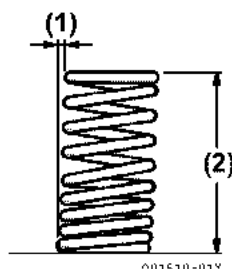
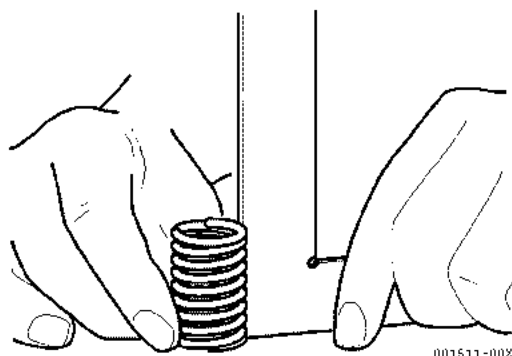

Figure 5-78
Figure 5-79
- Measure inclination (Figure 5-78, (1)) and (Figure 5-79).